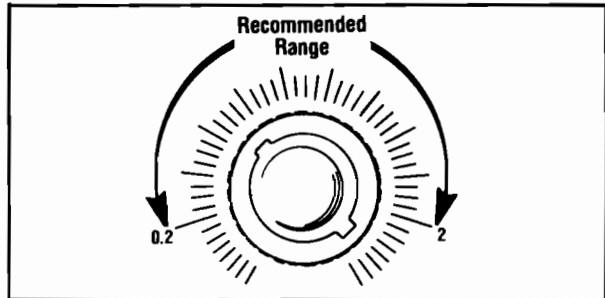

Fig. 3. COARSE Frequency Control.
1. The **COARSE** frequency control adjusts from approximately two-tenths to two times the indicated range value. For example, if the **10 K** range is selected and the **COARSE** frequency control is set to the most counterclockwise major line, the output frequency is approximately 2 kHz. When the **COARSE** frequency control is set to the most clockwise major line, the output frequency is approximately 20 kHz. Fig. 3 shows these major lines.
Keep the (starting) COARSE frequency control between the 0.2 and 2 positions (see Fig. 3).